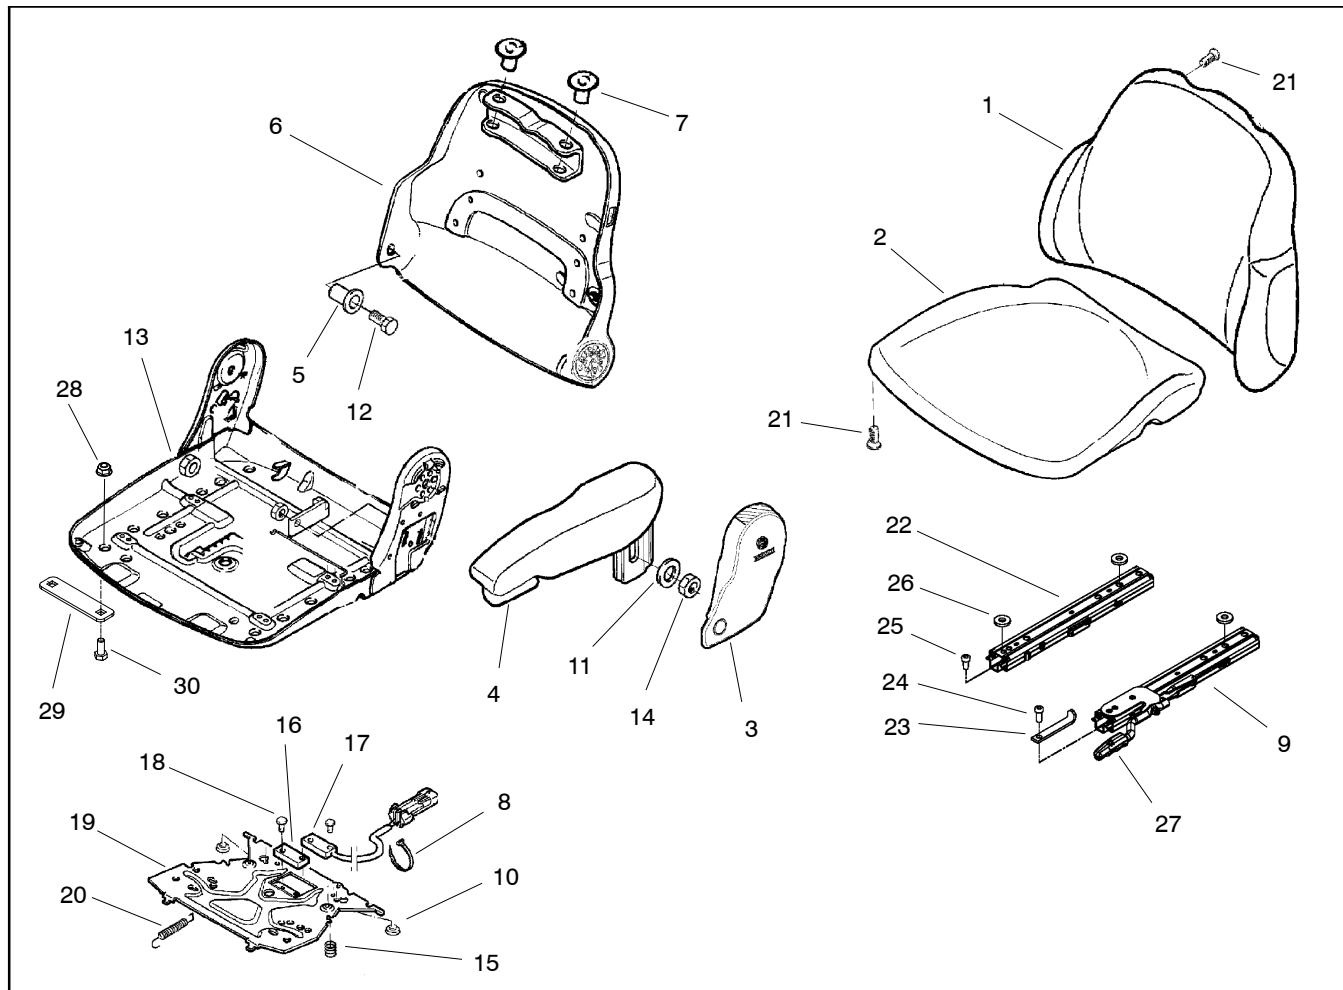

Figure 20
Disassembly (Fig. 20)
1. Disassemble operator seat as necessary using Figures 20 and 21 as guides.
Assembly (Fig. 20)
1. Assemble operator seat using Figures 20 and 21 as guides.